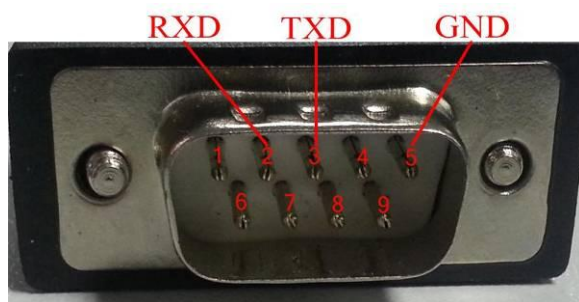

Fig 1-3. Male type pins definition of RS\_232 Port
1) Male type pins definition of RS\_232 Port is shown in Fig 1-3.